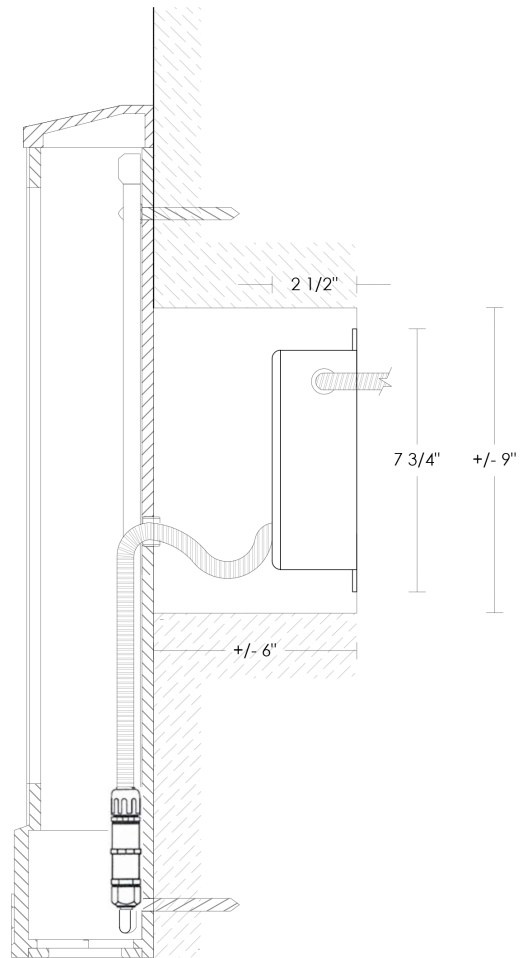

Fig. 5 Side Section
8. Carefully tuck the liquid-tight nonmetallic flexible conduit into the space in front of and to the side of the junction box. (fig 5)